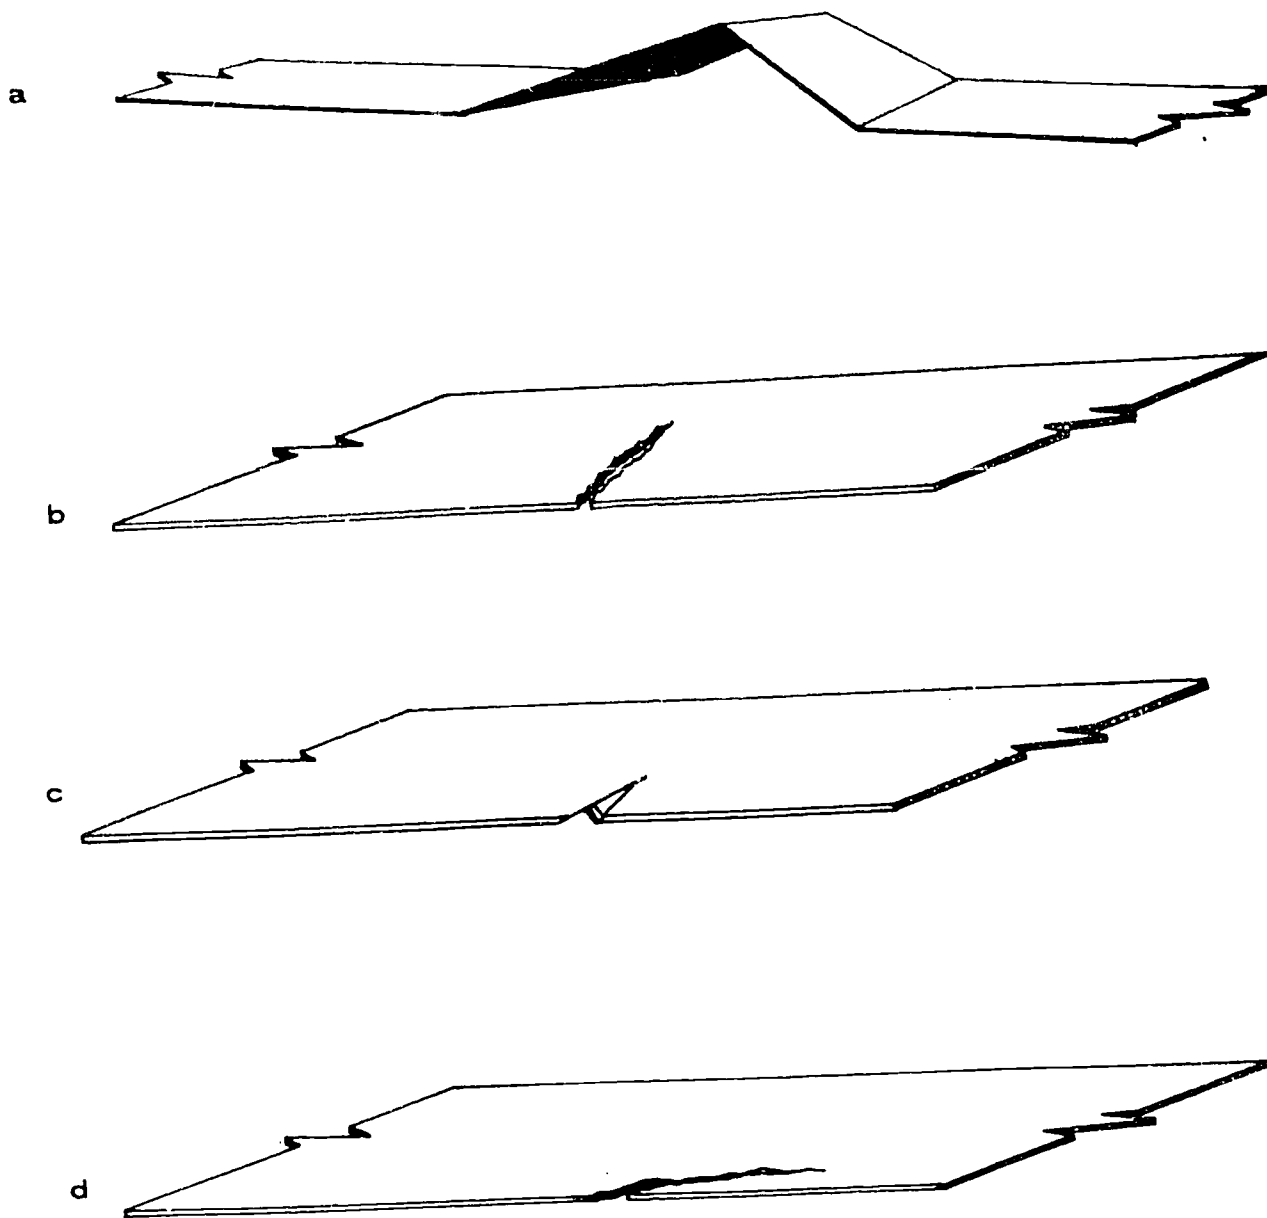

Figure 1-2. Physical film defects.
In figure 1-2, some defects that you may find present in film inspection are shown. While we cannot depict what these defects will feel like to you, you can sense this feeling and learn to recognize it as either a major or minor defect. Refer to the text in Objective 401 for the difference between major and minor defects.
1. Using figure 1-2, determine which defects would be classified as major.